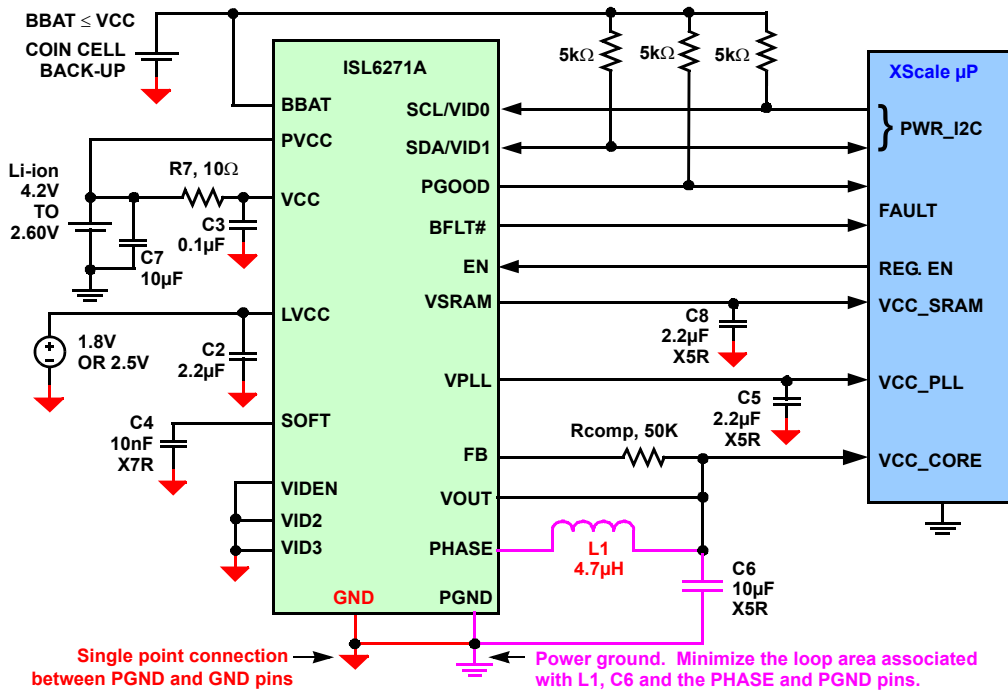

FIGURE 19. TYPICAL APPLICATION CIRCUIT
To minimize switching noise, it is important to keep the loop area associated with the phase node and output filter as short as possible. It is also important that the input voltage decoupling capacitor C7 be located as close to the PVCC pin as possible and that it has a low impedance return path to the PGND pin. In general a good approach to layout is to consider how switching current flows in a circuit, and to minimize the loop area associated with this current. In the case of the switching regulator, current flows from C7 through the internal upper P-MOSFET, to the load through the output filter and back to the PGND pin. *To maximize the effectiveness of any decoupling capacitor, minimize the parasitic inductance between the capacitor and the circuit it is decoupling.* Notice that Figure 19 illustrates the SIGNAL ground with RED highlighting. All components associated with these terminals should be tied together first. Be sure to make only one connection between this net and the PGND pin to avoid ground loops and noise injection points into sensitive analog circuitry.
- Do not leave pins VID2(5) or pin VID3(6) floating when using the I2C bus. Tie these pins to GND (16).
- Make sure that load current on VOUT returns to the pin 7 (PGND). Pin 16 (GND) functions as a quiet return for the LVCC loads. Tie Pin 16 to Pin 7 at a single point as in Figure 19.